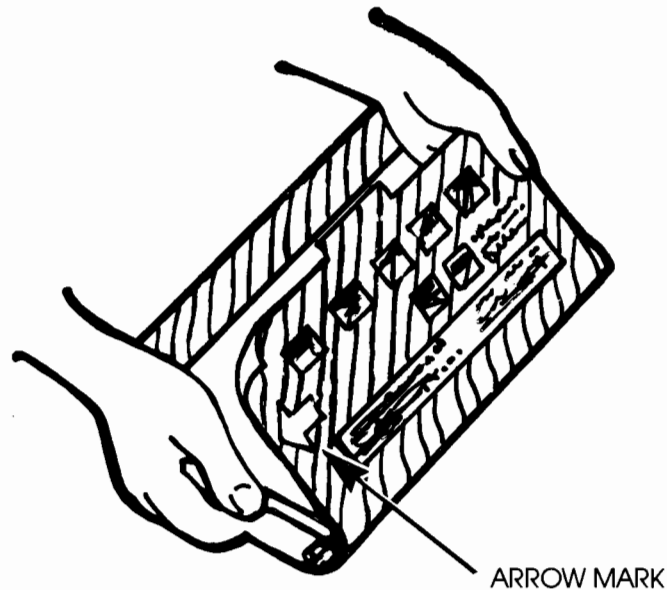

Figure 4-25. Installing New OPC Belt
- k. Slide a new OPC belt, with the arrow mark located on the right-hand side (see figure 4-25), until the edge of the OPC belt is 1/8 inch from the green edge-handle on the right-hand side. The OPC belt should be centered on the rollers when installed properly.